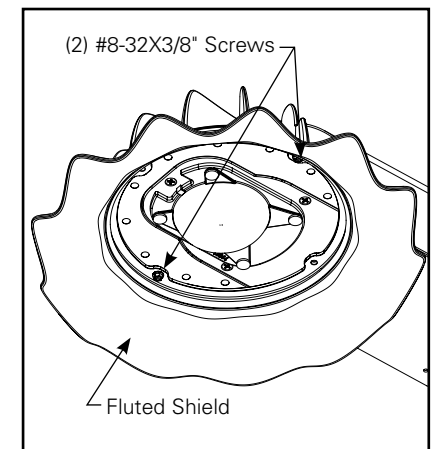

Figure 15.
1. Insert provided 8-32 x 3/8" screws into mounting holes to fasten the Fluted Shield to the housing. (Figure 15.)